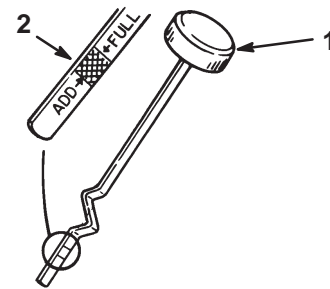

Figure 16
8. Unscrew the oil dipstick and wipe the metal end clean (Fig. 16).